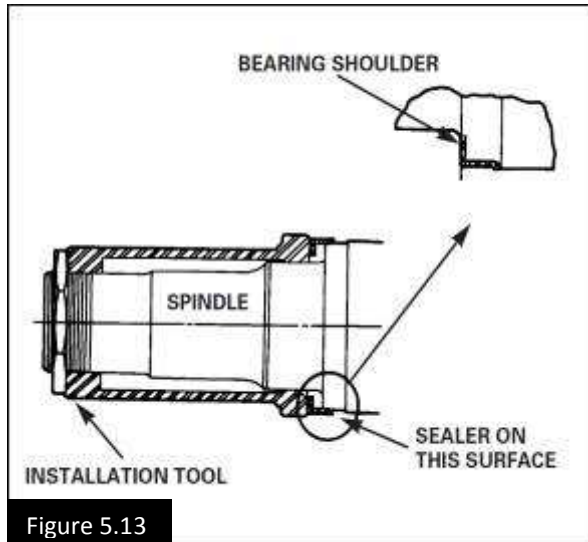

Figure 5.13
1. If the seal incorporates a separate Oil seal ring, apply a thin coat of sealant around the axle oil seal collar. Then using an installation tool, drive the wiper onto the oil seal collar until its edge is flush with the bearing shoulder. Figure 5.13.